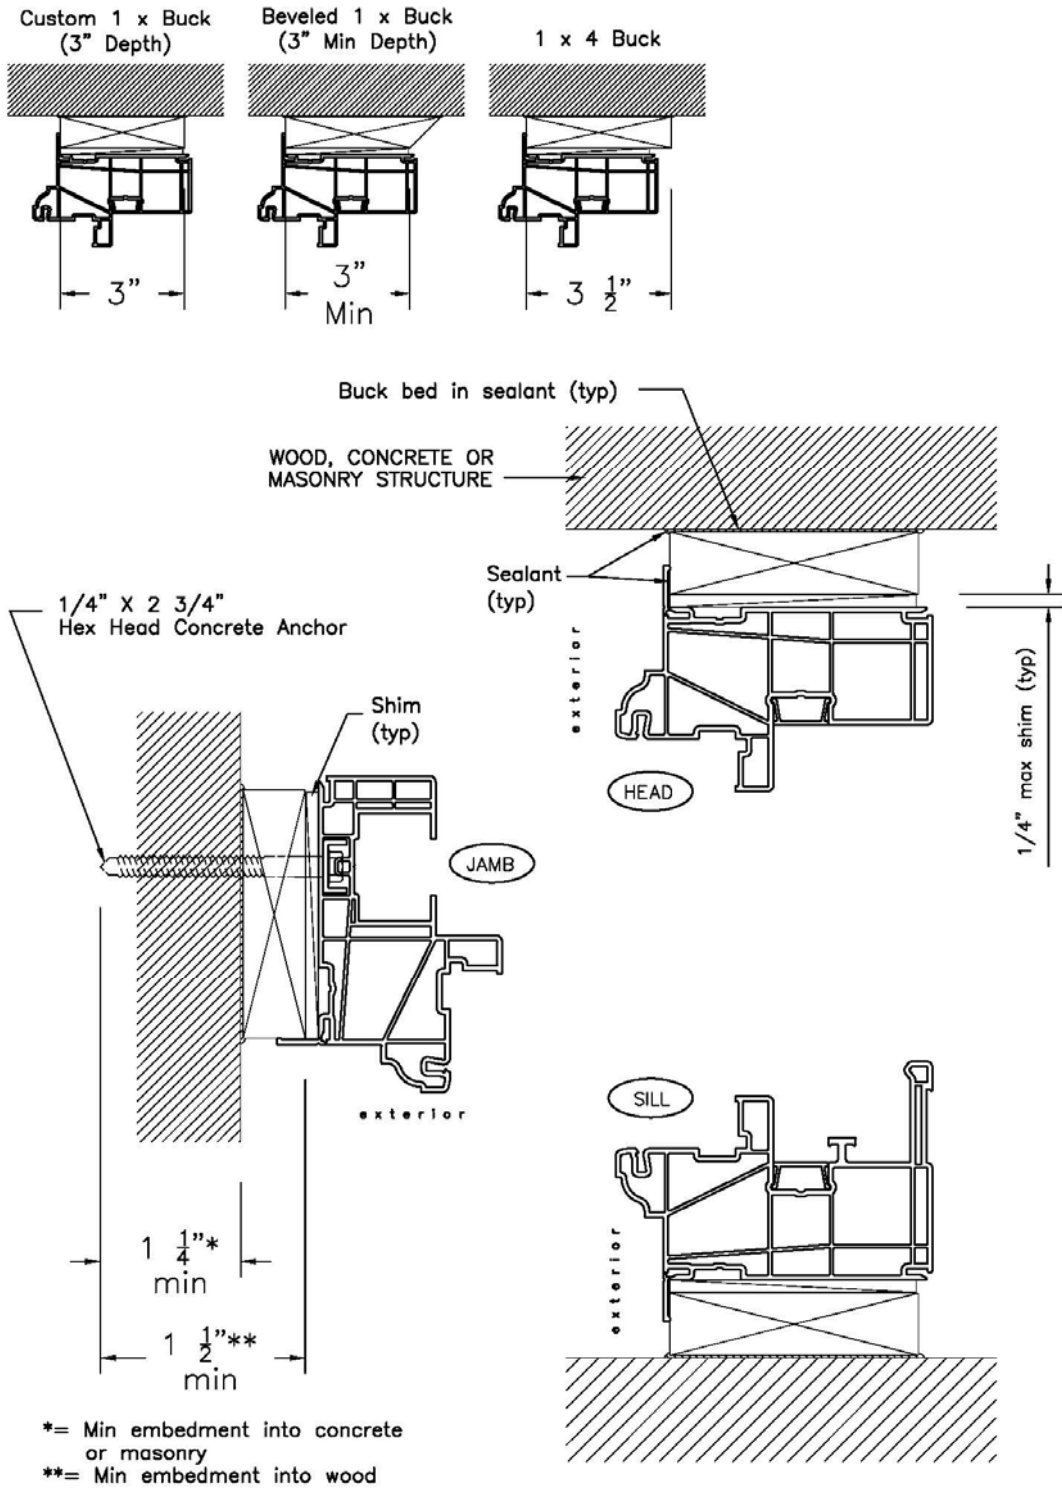

Figure 4: Installation type "A" using 1 x bucks
2. If wood bucks are being used, make sure they are of the correct size and type for the installation method being used (see figures 4 and 5 - Installations Types A and B). Verify that wood bucks are plumb, level and square. Note that Installation Type C (Equal/Flush Leg) does not require a wood buck.
5. Temporarily secure window frame using installation screws as selected from the approval documents for your specific application (see figures 4 – 6). To simplify the pre-installation process, you may want to use a smaller temporary screw such as a #12 Sheet Metal Screw and only penetrate the wood. Shim every installation screw snugly (shim space should not exceed 1/4"). Temporarily secure the